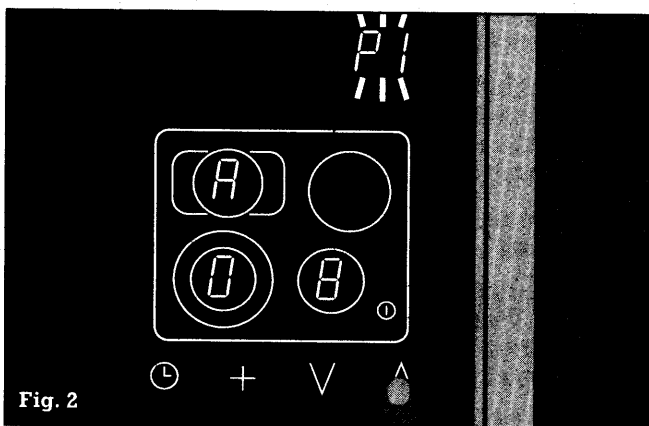

Fig. 2
- You can now touch symbols V or Λ and select a quick boil time from 1 to 15 minutes. The selected time (A 1 to A 15) is shown on the cooking zone display panel (fig. 2).